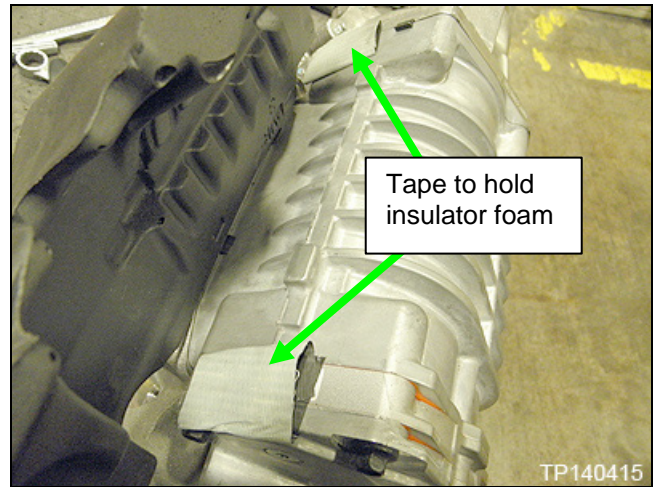

Figure 51
73. To hold the supercharger insulator foam in place for installation, attach it to the supercharger with several pieces of tape (Figure 51).